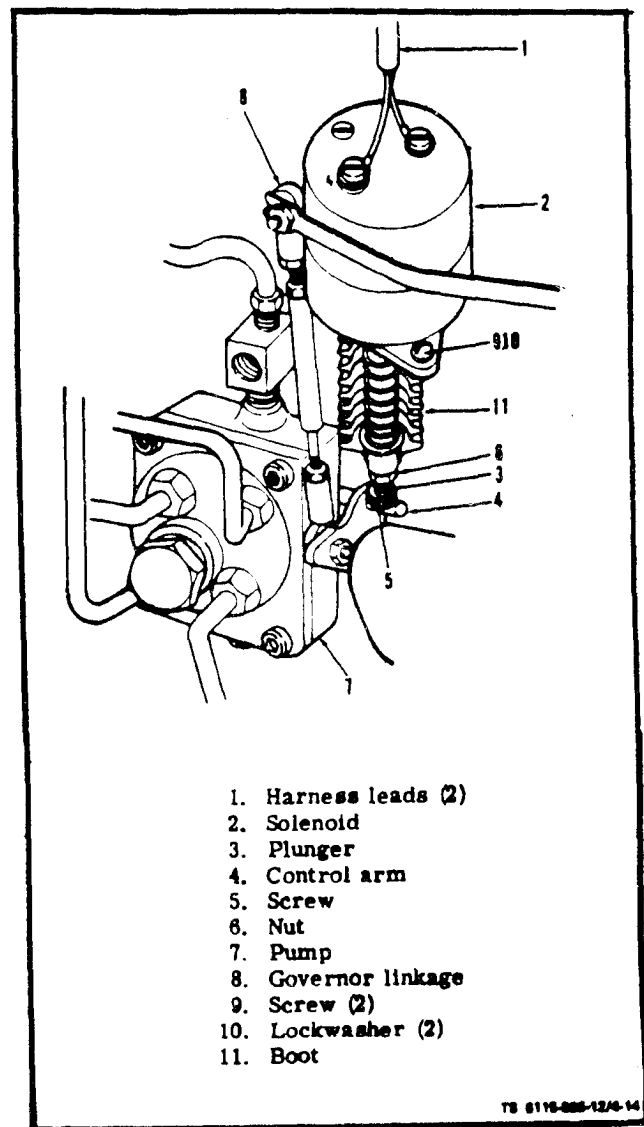
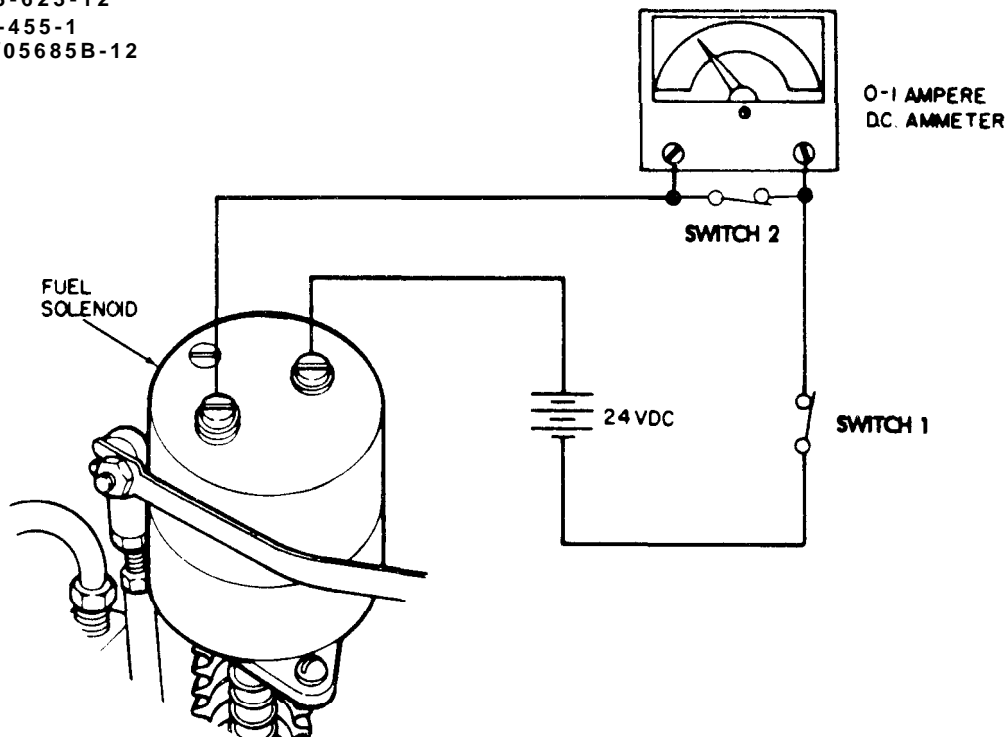

Figure 4-14. Adjusting Fuel Shut Off Solenoid
Figure 4-15. Fuel Solenoid Test Set-Up.
a. Inspect (on Equipment) (see figure 4-14). On ASK equipped generators, remove right panel assembly (para. 5-6). Check that electrical connections (1) are secure and clean. Check that rubber boot (11) is clean and not broken. Check that governor and pump linkage moves freely and is clean.
b. Test (on Equipment) (see figure 4-15).
(1) Tag and remove the solenoid harness leads (1). Figure 4-14.
(2) Connect the solenoid into test setup (figure 4-15).
(3) With switch (S1) closed the plunger should actuate and the current draw should be 0.25 ampere dc.
(4) If plunger does not actuate or if meter reads above 0.35 amperes replace solenoid.
c. Remove (see figure 4-14). Tag and disconnect harness leads (1). Remove the shut-off solenoid by removing screws (9) and lockwashers (10).
d. Installation. Mount shut-off solenoid using screws (9) and lockwashers (10). Reconnect previously tagged and removed harness wires (1).
e. Adjust. The solenoid plunger (3) should be adjusted so it fully stops injection when in the deenergized position. With engine running at full rated load, clearance between plunger (3) and control arm (4) should be at least 1/8 inch. To adjust the plunger length, loosen jam nut (6) on bottom of plunger. Turn knurled headscrew (5). Lock jam nut (6) after correct adjustment. On ASK equipped generators, install right panel assembly (para. 5-6).